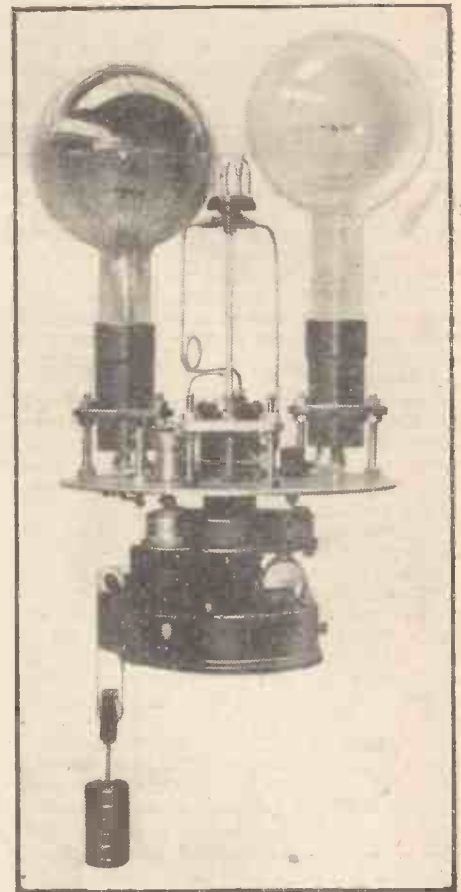

Fig. 3.—Automatic lamp changer.
- (1) An electric lamp so disposed on its stand that lamp and holder may be removed in the event of filament or mains breakdown, and a standby oil wick capillary lamp placed in position.
- (2) As for (1) above, except that the standby unit is of the petroleum vapour incandescent burner type, with a special screw adjustment to compensate for the difference in overall height of the oil burner, and the light centre length of the electric lamp.
- (3) An electric lamp and a standby acetylene burner (or a coal gas burner) mounted on a semi-automatic "changing" mechanism. "Semi-automatic" in that after the mechanism has functioned once automatically, it must be reset for the next change.
- (4) Two electric lamps mounted on a semi-automatic lamp changer, with a mains supply to one lamp, and a battery or special supply through the mains for the second lamp. This "special" supply is usually obtained from an automatic generating set which comes into operation immediately a failure occurs, an audible warning being given in the keeper's room by bell or horn to indicate the failure of lamp or mains. Two advantages at least are obtained with such a scheme, viz., the beam intensity remains constant, and the functioning of the light is practically ensured regardless of human intervention, so long as the filament of the second lamp remains in working order.
- (5) Two electric lamps and an acetylene burner carried on a semi-automatic changer so designed that failure of the first lamp causes the second to swing into place, and failure of the second, or a mains failure, brings the acetylene into position. This also occurs each time the light is switched off, and the changer has therefore to be reset by hand each day.
- (6) Two electric lamps and an acetylene burner mounted on a fully automatic lamp changer which operates on somewhat similar lines to (5) above, except that where a mains failure has caused the acetylene lamp to be swung into position, on a resumption of mains supply the machine automatically swings the acetylene lamp unit out and replaces the electric lamp. Fig. 3 shows a changer of this class.